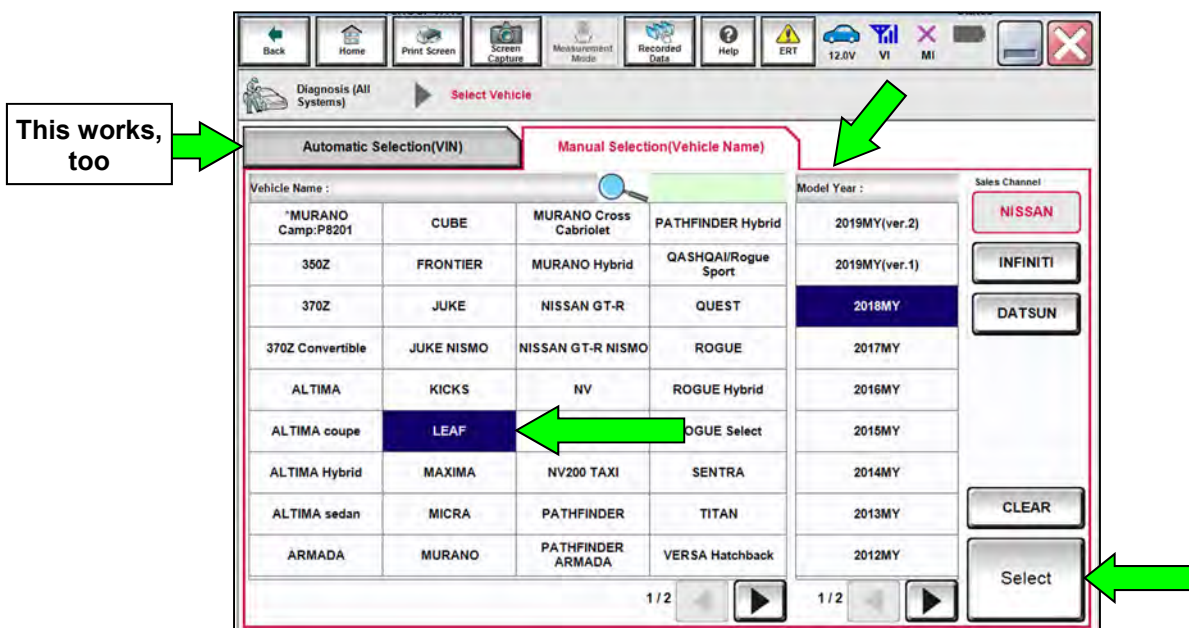

Figure 4
- If the screen in Figure 4 does not display, skip to step 16.